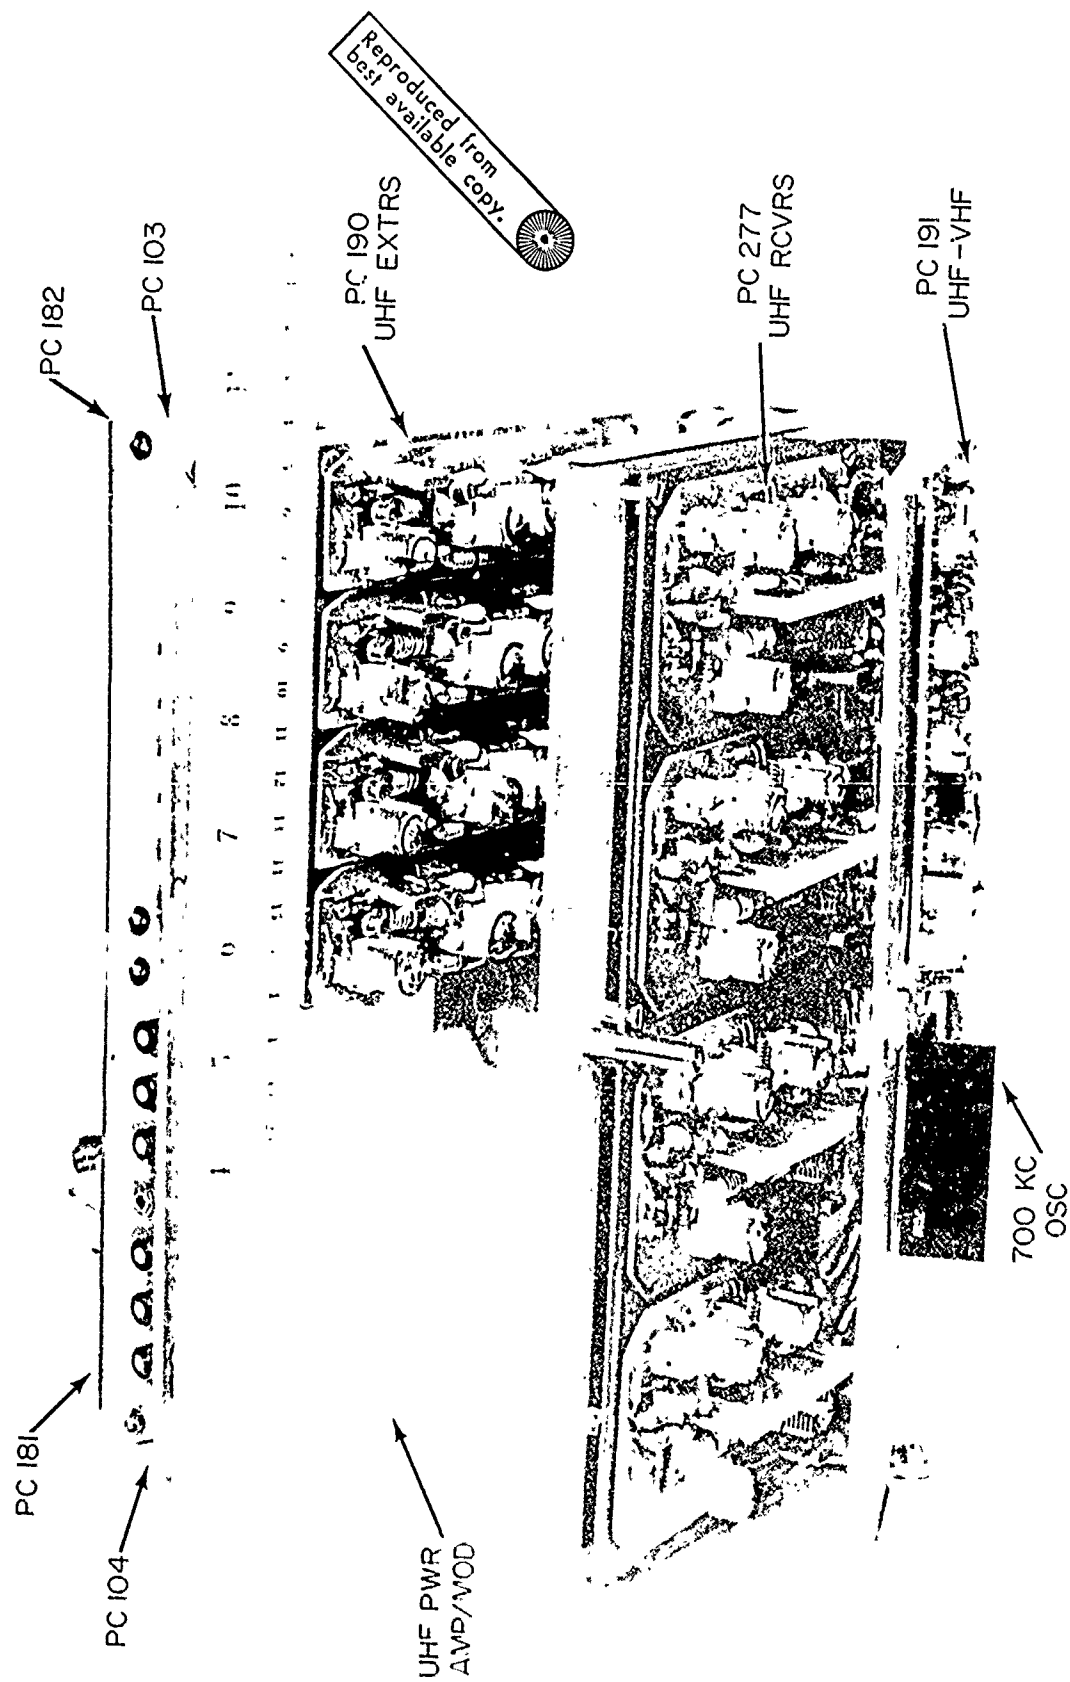

Fig. 4-3. Buoy electronics: UHF side
b. UHF TRANSMITTER - Four PC-190 circuit boards make up the four exciters for the UHF transmitter (Fig. 4-3). Crystal Y1 on PC-190 is the fundamental frequency crystal. The desired operating frequency  $F_o$  is three times the crystal frequency  $F_x$ , as shown by
c. UHF RECEIVER - Crystal Y1 of PC-277 (Fig. 4-3) is the first heterodyne crystal for the UHF receiver, and its frequency determines the operating frequency of the UHF channel. Each PC-277 forms the front end of a channel.